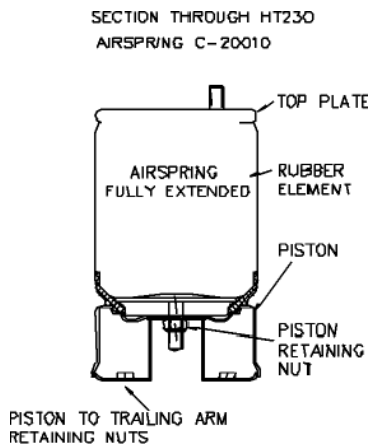

Figure 2
6. Loosen the air spring piston retaining nut to allow rotation of the air spring about the piston (*see Figure 2*).